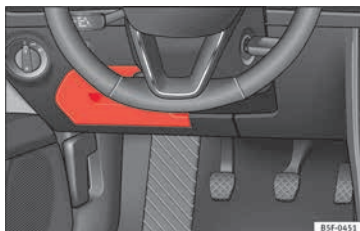

Fig. 101 On the driver-side dash panel: fuse box cover
- *Opening:* fold the cover down » **Fig. 101**.